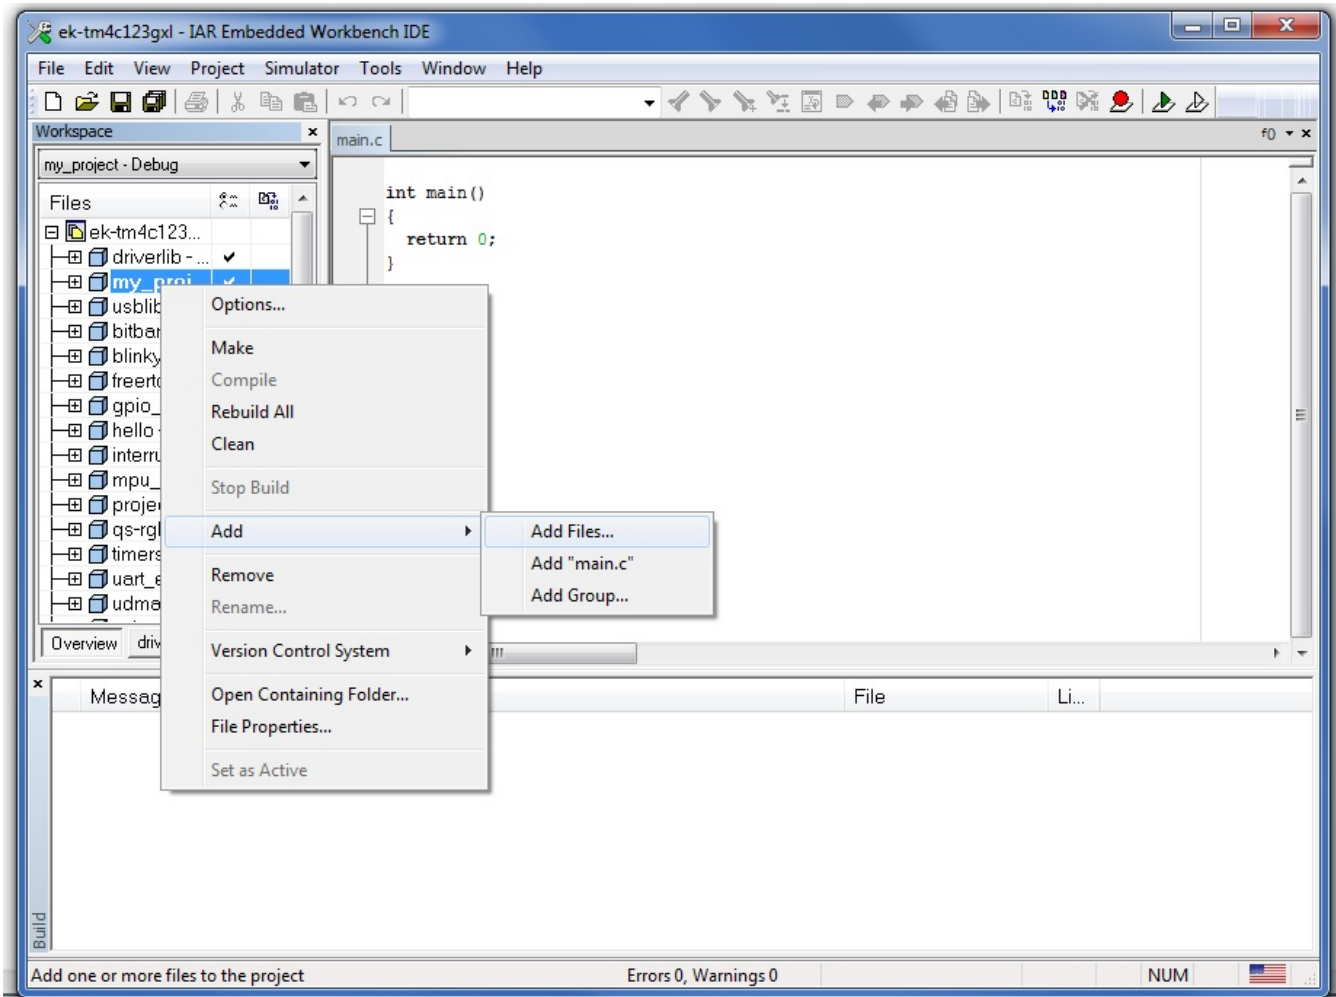

Figure 9.
3. Right-click the project and select Add → Add Files... (see Figure 9). This takes you to the project directory.